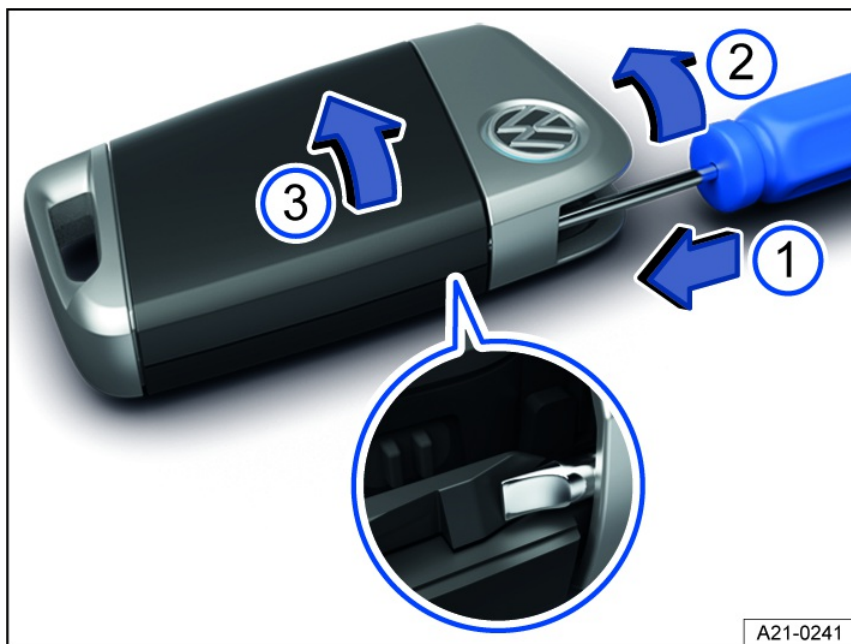

Fig. 49 Vehicle key: opening the battery compartment cover.
2. Slide the blade of the flat-bladed screwdriver in the direction of the arrow approximately 1 cm into the outer guide on the emergency key in the vehicle key *fig. 49* ①.
3. Turn the flat-bladed screwdriver clockwise until the cover pops up *fig. 49* ②.
4. Push the cover in the direction of the arrow *fig. 49* ③ and remove it.
6. Press the new button cell battery into the battery compartment ⇒ ①.
7. Press the cover onto the housing *fig. 49* ③.